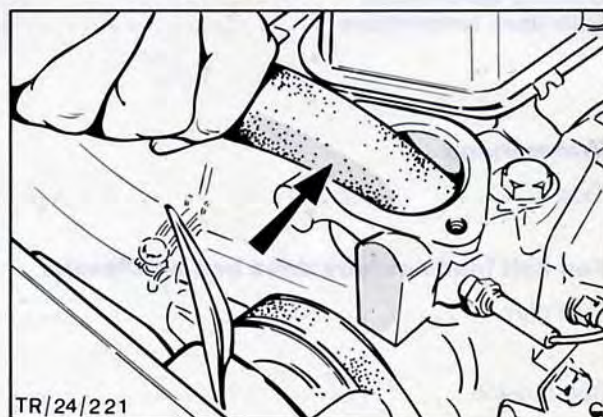

Fig. 41. Back flushing engine (Kent engine variant illustrated)
3. Position high pressure hose into engine via thermostat location and back flush engine, Fig. 41.